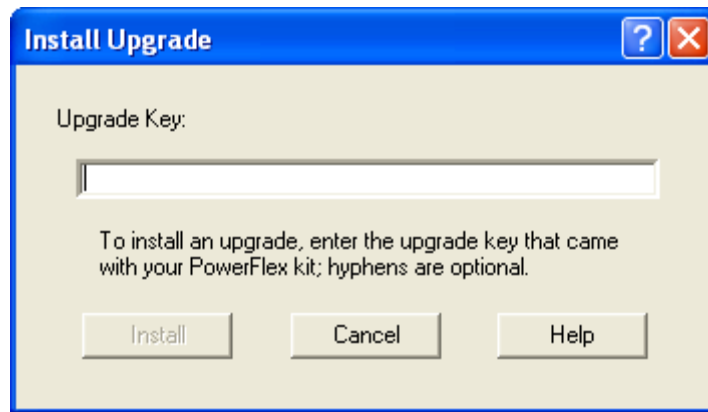

Figure 2: Install Upgrade dialog box
5. Click the Install Upgrade button in the PowerFlex window. The Install Upgrade dialog box appears. (See Figure 2.)